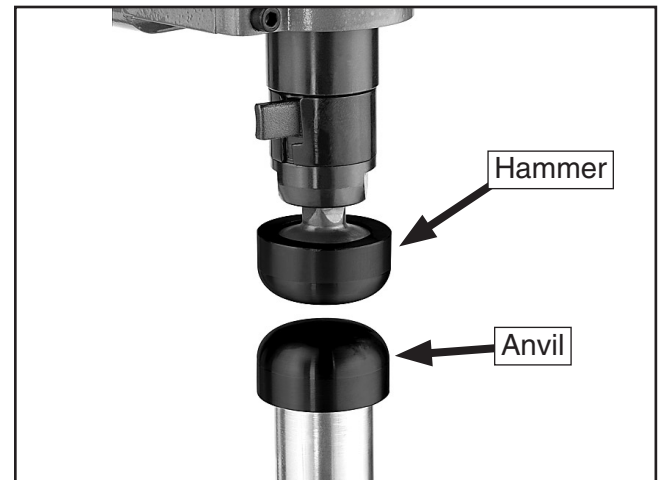

Figure 4. Planishing hammer and anvil.
6. With the workpiece between the hammer and anvil (**Figure 4**), depress the foot pedal to begin planishing.